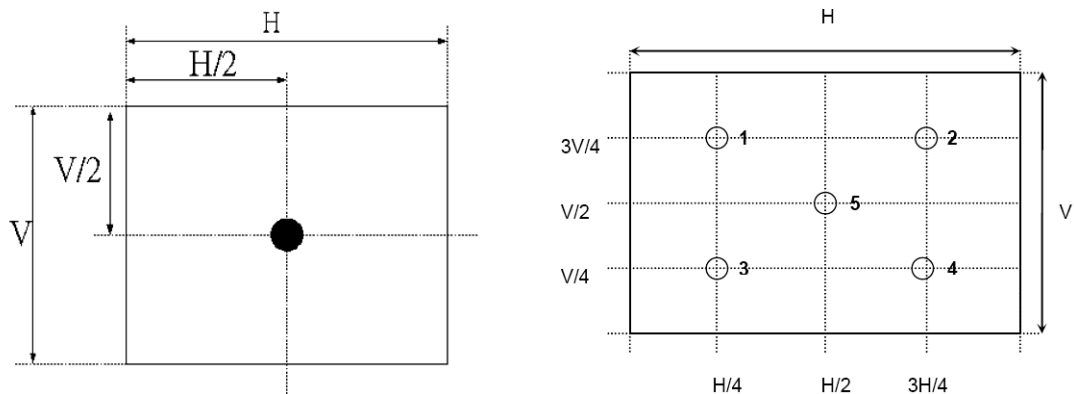

Fig.4-2 Optical measurement point
2. Surface luminance is luminance value at point 1 across the LCD surface 50cm from the surface with all pixels displaying white. From more information see Fig. 4-2. When $V_{\text{DDB}} = 24\text{V}$, $I_{\text{DDB}} = 6.3\text{A}$. $L_{\text{WH}} = L_{\text{on1}}$, Where L_{on1} is the luminance with all pixels displaying white at center 1 location.